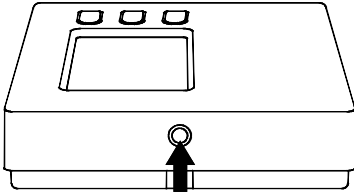

Fig. 3
- 1** Push, with the help of a screwdriver, the plastic tooth located in the slot on the left side, then lift the plastic cover (Fig. 3).